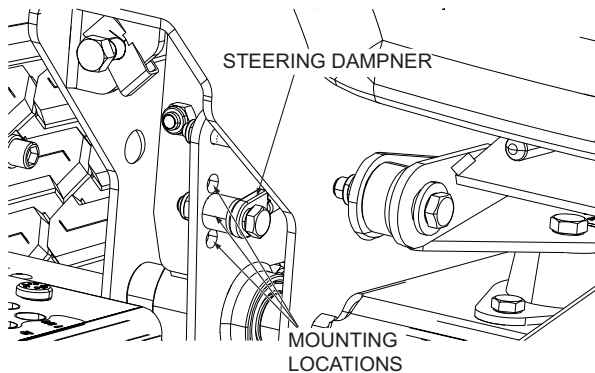

Figure 6-10. Steering Dampener Adjustment
1. **Top Mounting Location (Figure 6-10).** Used for the highest dampening affect on the steering controls.
2. **Middle Mounting Location (Figure 6-10).** Used for average dampening affect on the steering controls.
3. **Bottom Mounting Location (Figure 6-10).** Used for the lowest dampening affect on the steering controls.
When the clutch is disengaged, the air gap between the armature and rotor must be adjusted to fifteen thousandths of an inch, 0.015, for proper operation. The air gap adjustment is made at three bolts on the clutch. There are three inspection windows, one next to each adjusting bolt. See Figure 6-10.